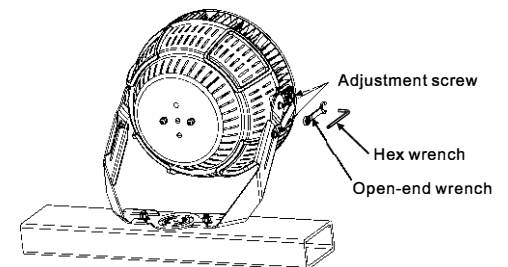

Figure 9
4. Use an open-end wrench and hex wrench to loosen the adjustment screw used to adjust the angle (Figure 9);